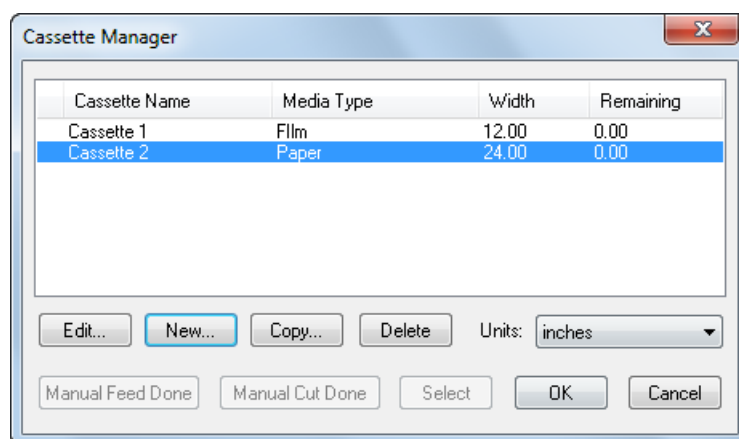

Figure 9.4 Cassette Manager dialog box
Before processing any jobs, you need to tell the RIP about the cassettes you are using and give details of the media currently in each cassette. You do this from the Cassette Manager dialog box. Click the **Cassette Manager** button in the Edit Page Setup dialog box or choose **Output > Cassette Manager** to open the Cassette Manager dialog box, as shown in Figure 9.4.
- If you perform a manual operation by using controls on the output device, you must inform the RIP. Display the Cassette Manager and click the button **Manual Cut Done** or **Manual Feed Done** whenever you perform the corresponding manual operation. See Figure 9.4, page 262, and the following description of the buttons.